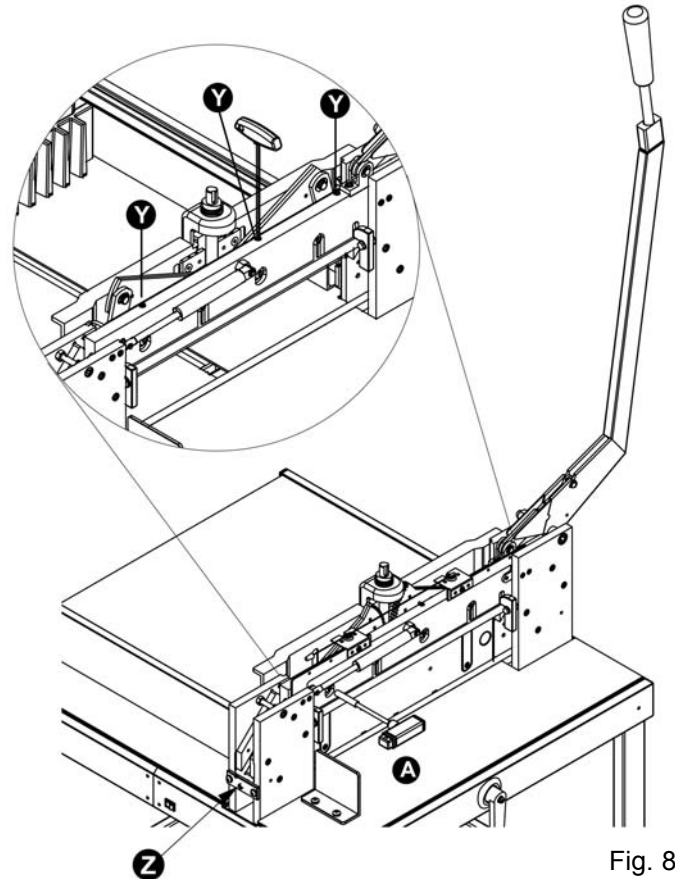

Fig. 8
- (15) Replace blade screws (C) and (E). Remove the blade holders. Replace blade screws (B) and (D).
- (16) Return the blade lever to its starting position and lock it.
- (17) Screw in blade screw (A).
- (18) Using the blade lever, lower the blade carefully down to the cutting stick.
- (19) Turn the blade adjustment (Z) to the right (-) until you have a visible ray of light between the blade edge and the cutting stick. (Fig. 8)
- (20) Adjust the blade to touch the cutting stick evenly by adjusting the 3 blade screws (Y).
- (21) Once again, return the blade lever to its starting position and lock it. Make a trial cut with one sheet of paper. If the paper is not cut through completely, the blade must be readjusted with the adjusting screws (Y) and (Z).